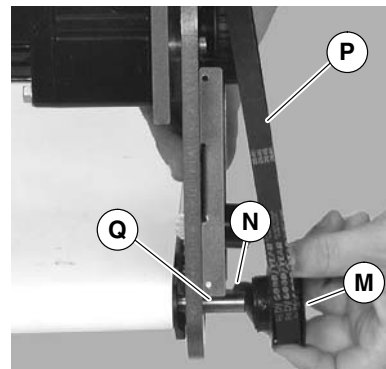

Figure 10
5. Install key (Figure 10, item N).